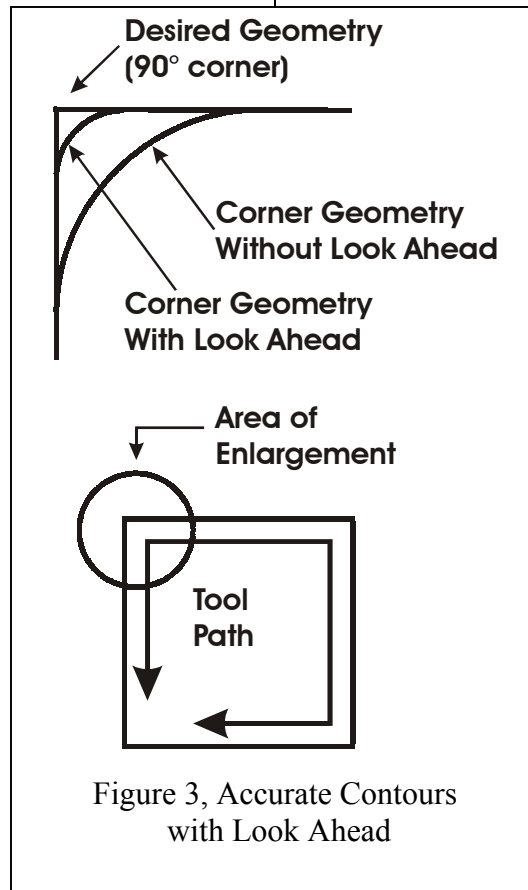

Figure 3, Accurate Contours with Look Ahead
In one case, the CNC may shortcut data points. This is the most common with older technology, where the CNC isn't checked for in-position, but rather assumes a proximity to the programmed dimensions and simply moves along with the next command before accurately completing the current command. The intelligent CNC analyzes data ahead, slowing as needed for changes in part geometry to cut more accurately. Refer to figure 3.
- Figure 3, paraphrased from "High Performance Machining" by Miles Arnone, 1998